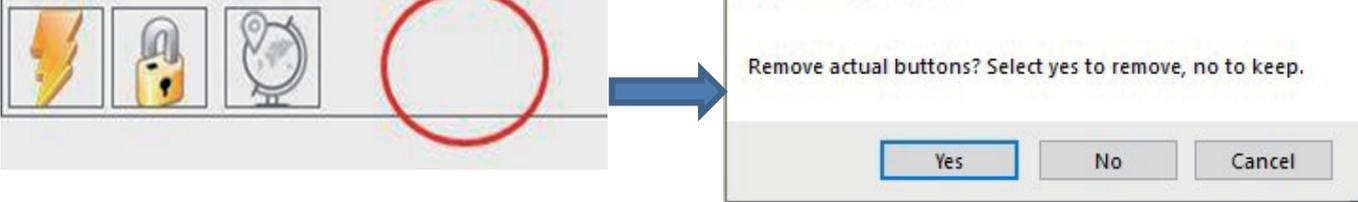

Figure 3 Import & loading of custom buttons
- Next, we will import the custom buttons into LaserGRBL. In LaserGRBL, right-click on the blank space next to the bottom button (as shown in Figure 3) -> Import custom button, then select the custom button zip file downloaded before to import, keep pressing Yes (Y) until no window pops up.